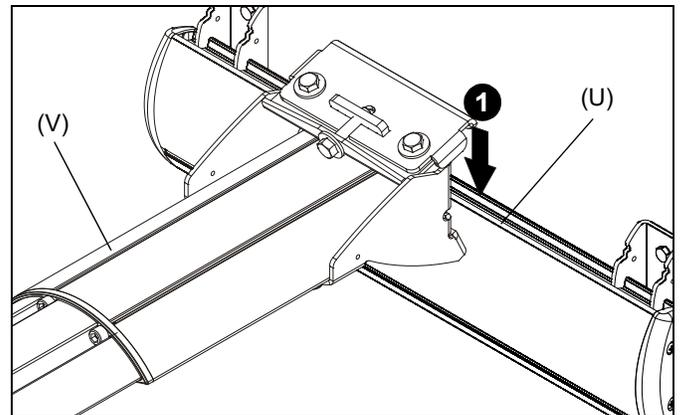

Figure 8
1. Lift projector mount assembly (V) up to projector mount wall bracket (U) and hook top edge onto cross plate of wall bracket. (See Figure 8)